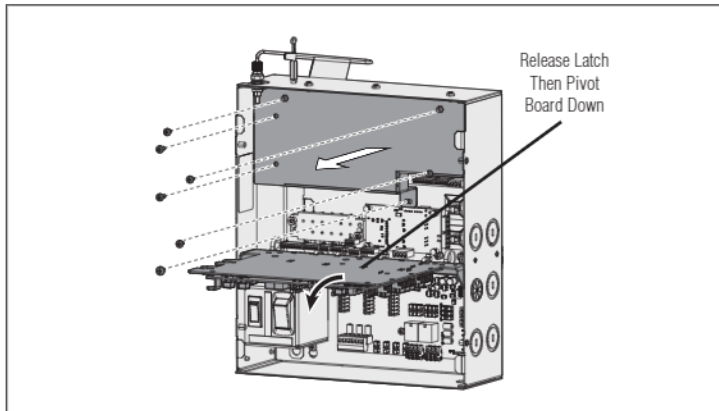

Fig. 1 - Accessing the Power Board (Models HDSL24UL / HDSW24UL)
4. Access and remove the power board. See Fig. 1 and 2 (All HD Models)